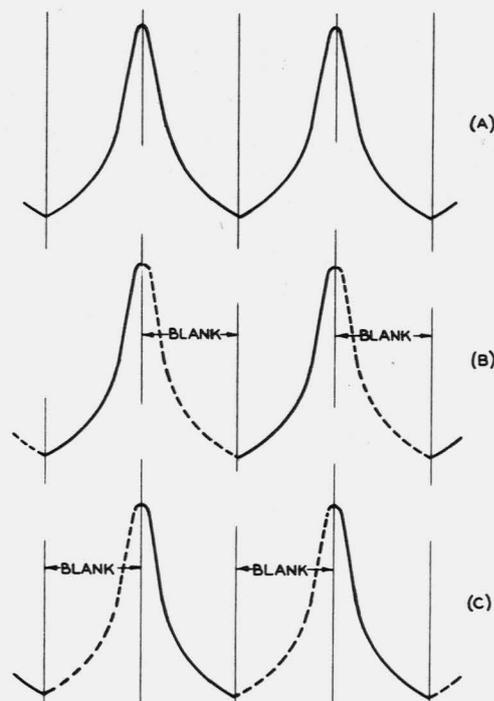

Fig. 3 - Wave Forms from Scope X Jack
- (1) Connect the Y-axis signal input of the oscilloscope to the SCOPE-X jack. It should be operated with internal sweep at about 30 cycles, line frequency sync, input attenuator at INPUT UNDER 250V, and with the gain control set to give about 2 inches deflection.
- (2) With the sweep motor of the oscilloscope running, and with the oscilloscope blanking off, the observed pattern should be similar to that in Fig. 3(a). If the pattern appears flattened or clipped, it is an indication of overload caused by too much signal applied to the discriminator. This level may be reduced by bending sideways the one turn pick-up loop connected to J10 in the oscillator assembly. If the power meter is connected directly to this jack, it should read between -8 and -5 dbm.
- (3) Note that the pattern appears stable and clean. If a slight vertical jump occurs at intervals, it may be an indication that the voltage regulator tube (V5) in the power supply section is unstable and should be replaced. Any slight variation in the DC supply voltage is amplified by the sweep circuit. This may be sometimes discovered as a sideways jitter in the oscilloscope pattern when the sweep is used in normal testing.
- (4) Turn off the sweep motor and bring it to a stop.
- (5) Turn the blanking on in the oscilloscope, and turn on the sweep motor. The pattern should now appear similar to Fig. 3(b) or 3(c). If not, slightly loosen the three nuts which lock the sweep motor in position and rotate the entire motor assembly until the pattern is in the correct phase with respect to the oscilloscope blanking.